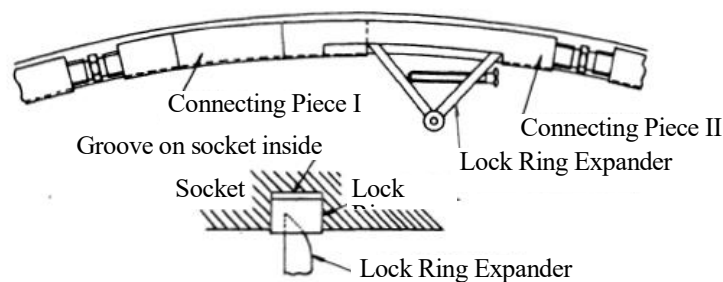

Figure-9 Expansion of Lock Ring with Lock Ring Expander
- (1) Install the Lock Ring in the groove of the inside socket. Locate the Connecting Pieces I and II at the top of the socket. Keep the Connecting Pieces from turning while installing the Lock Ring.
- (2) Spread the Lock Ring with the Lock Ring Expander so that the whole Lock Ring is securely installed in the groove of the socket. (See Figure-9.)